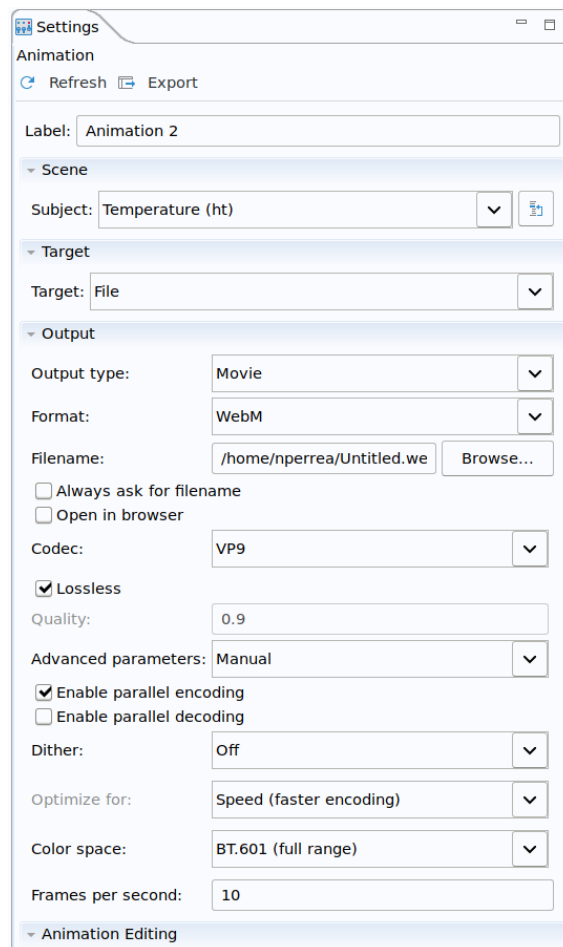

Figure 6: *Parameters to use for video output.*
**Question 10:** It is also useful to keep a record of the animation, and so you can export it to a video. Find how to generate a video, and don't forget copy it back from the server and join it with your report. You should use the same parameters as those shown in figure 6.